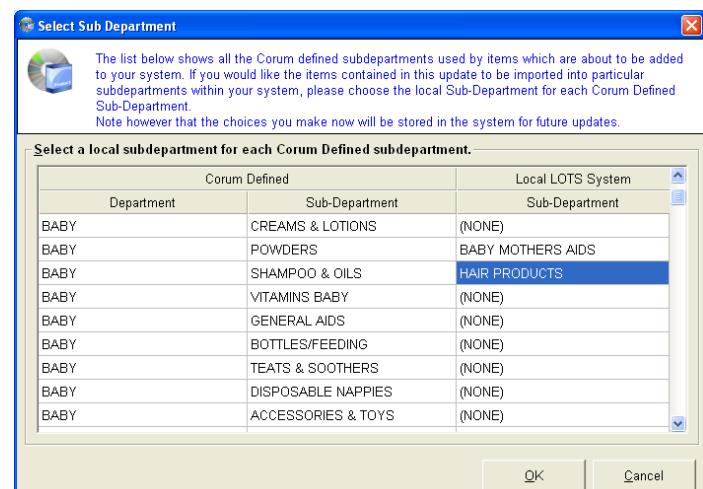

Figure 263
23. For example if you set 'Hair Products' as the LOTS sub department for the Corum Defined 'Baby → Shampoo Oils' then all future products under 'Baby → Shampoo Oils' will automatically get assigned to 'Hair Products' (see Figure 263).